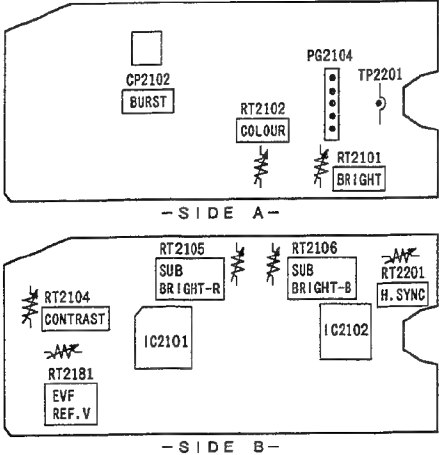

Fig. 2-23 Colour EVF (CRE) Circuit Board
(1) Output Voltage Adjustment (Fig. 2-23)
(2) H-Drive Frequency Adjustment (Fig. 2-23)
(3) Brightness, Contrast Adjustment (Fig. 2-23)
(4) Sub-Bright Adjustment (Fig. 2-23)
(5) Chroma Gain and Colour Phase Adjustment (Fig. 2-23)